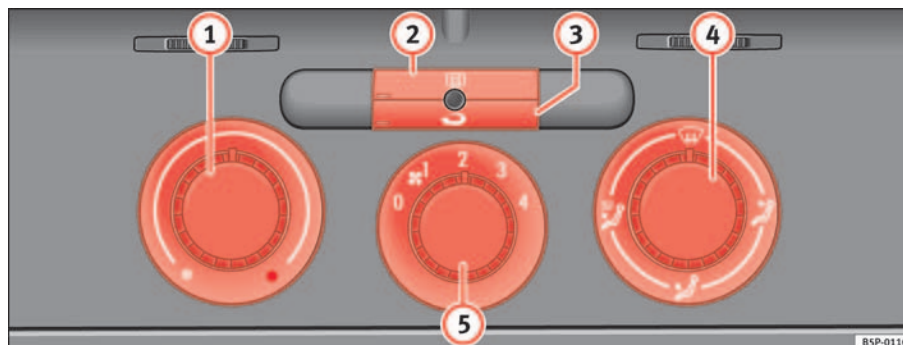

Fig. 121 On the dash panel: Heater controls
- Using the controls ⇒ fig. 121 ① and ④ and the control ⑤ you can set the temperature, air distribution and the turbine speed.
- To switch a function on or off, press the appropriate button ② or ③. When the function is activated, the display window in the lower left of the button is lit.